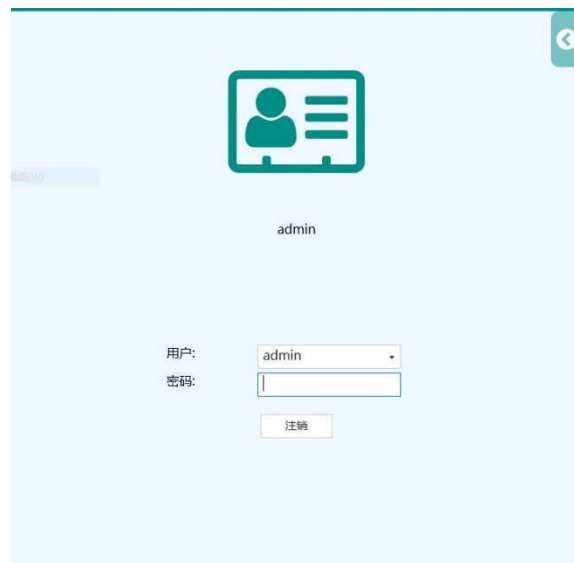

Figure 3-1 User Login
- The software directly enters the **user login** interface shown in **Figure 3-1**, as shown in the following figure.